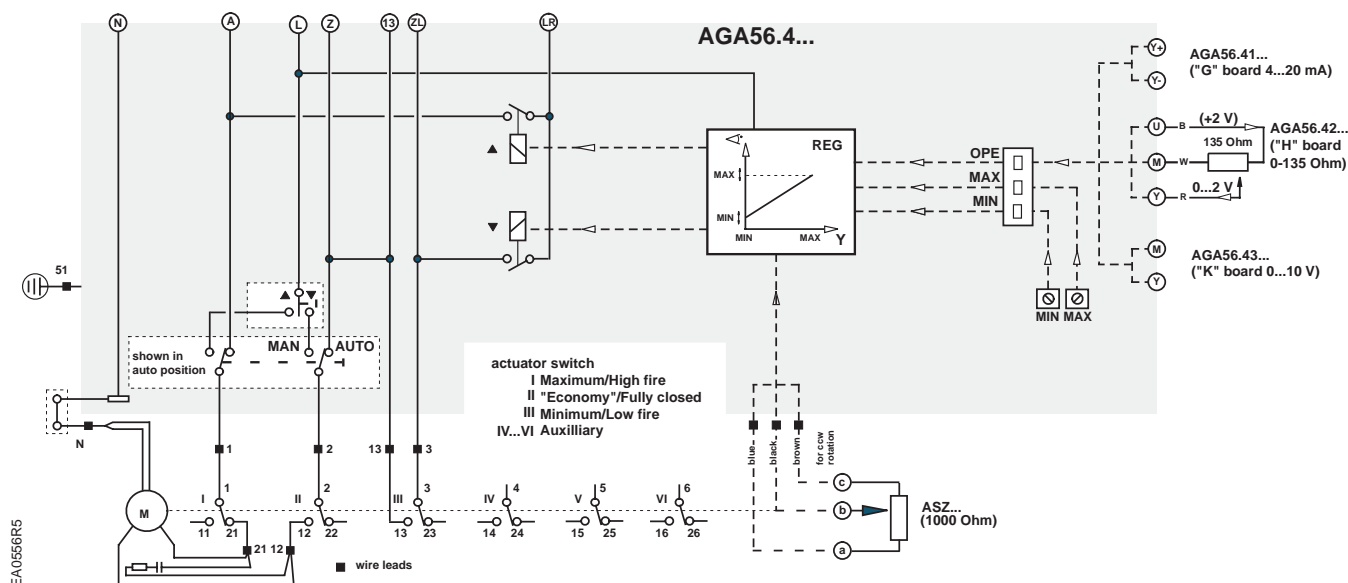

Figure 4. Basic Functional Diagram of AGA56.4...
9. Connect the input control signal wires to the appropriate terminals. See Figure 4.